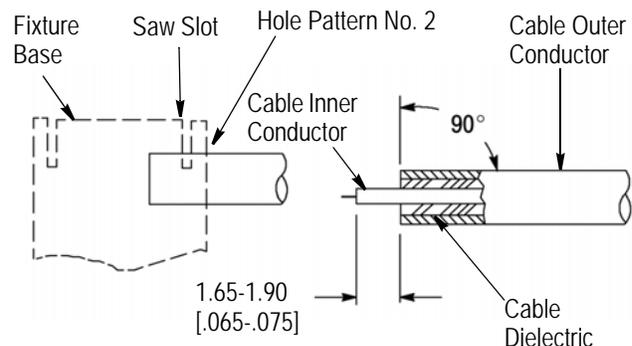

Figure 2
1. Insert the squared cable end into the fixture base hole pattern No. 2. as shown in Figure 2.
5. Complete trimming of cable inner conductor to dimension shown in Figure 2.